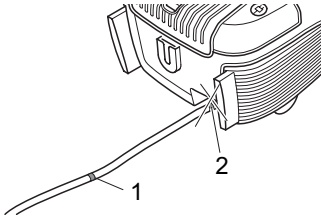

Fig. 10
2. Pull the cable holding the plug (Fig. 1/15) until the yellow mark (Fig. 10/1) is reached.
If the red mark (Fig. 10/2) is visible, then retract the cable again until it is no longer visible, ▷ *Chapter 3.2, "Switching off and retracting the power cable".* Otherwise the cable can break off. There is a risk of electric shock.